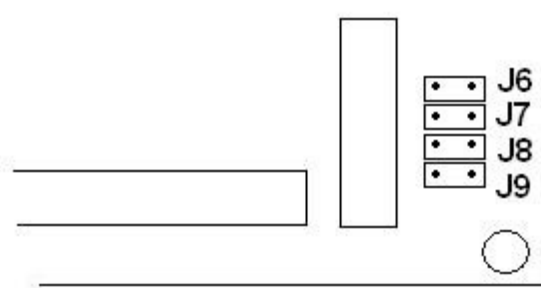

Figure 5: Location of the J8, J9 jumpers on the digital module inside the instrument.
- Remove the instrument back cover. Move the jumper on the digital module from the position J9 to J8 [Figure 5].